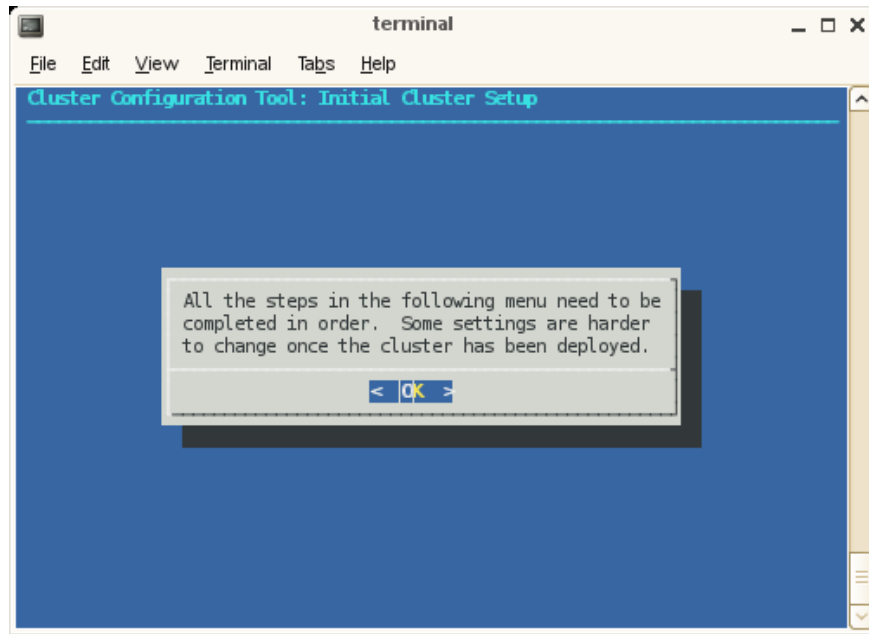

Figure 2-11 Cluster Configuration Tool: Initial Cluster Setup Screen
3. The **Cluster Configuration Tool: Initial Cluster Setup** screen appears, as shown in Figure 2-11 on page 54. Read the notice and then click **OK** to continue.